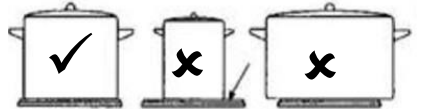

Fig. 15
- Use pans that are the same size or slightly larger than the hotplate (fig. 15). Smaller pans waste energy and oversized pans (>50mm overhang) can overheat the hob and cause cracks and damage.